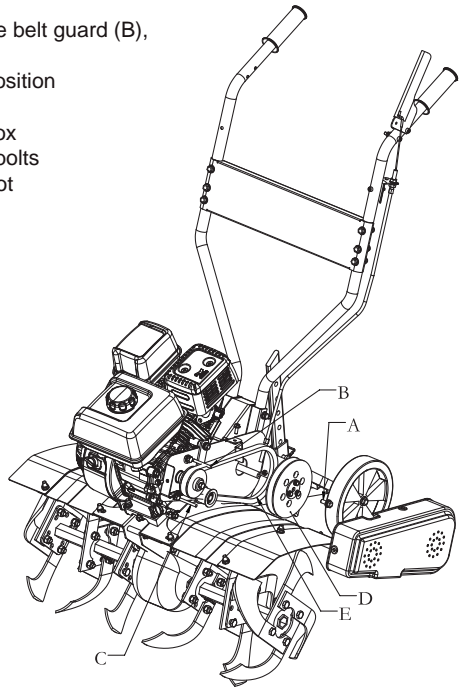

Fig. 13
2. Release the clutch handle (C) to the initial position (See Figure 13).
3. Remove the M8 bolt (A) that fixes the gearbox pulley (D), then loosen the hexagonal head bolts that fix the belt fixing parts (B) and (C) (do not remove them).
4. Remove the gearbox pulley (D) and belt (E) together, and replace the new belt, remount the pulley (D).
5. Tighten the bolts (B) and (C), remount the belt guard (B).